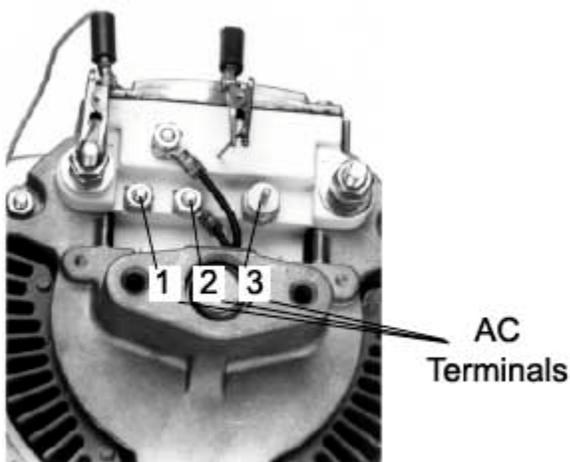

Figure 5
5.5 Connect an AC voltmeter across alternator AC terminals 1 & 2, 1 & 3, 2 & 3, and compare each of the three AC voltage readings. If all three AC voltages are approximately the same, (balanced), then the stator is OK (Figure 5).